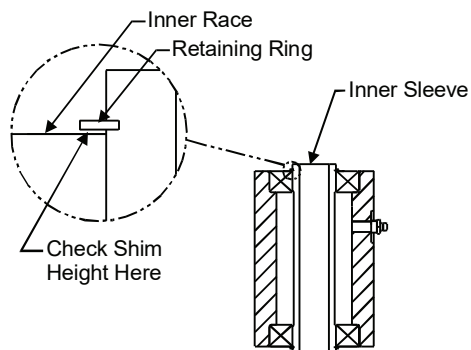

Figure 28 – Location of Shims
8. Remove the upper retaining ring, install the shims determined in step 7 onto the inner sleeve at upper inner race, and re-install the upper retaining ring. Check that upper retaining ring is properly seated in the groove of the inner sleeve. (See Figure 28).